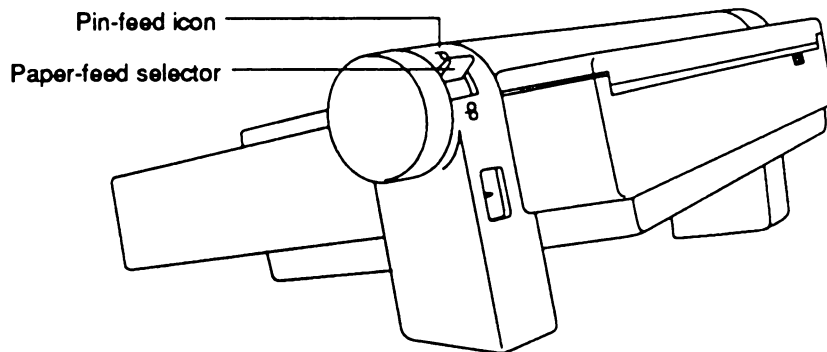

Figure 15. Paper feed selector set for pin feed
12. Set the **paper-feed selector**, located next to the **platen knob** to the up position for pin feed, as shown in Figure 15.